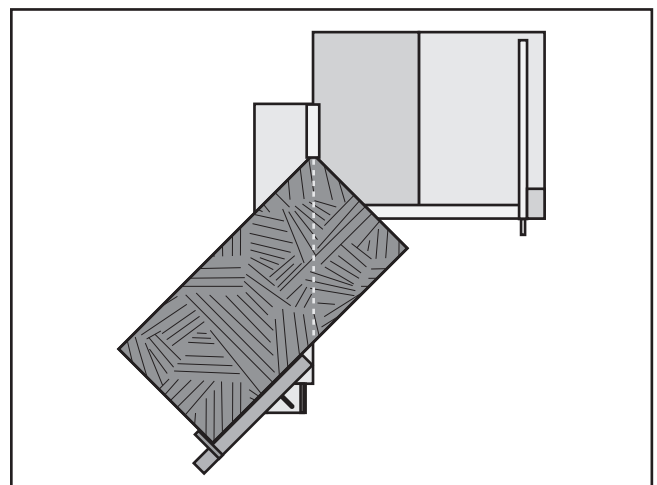

Figure 65. Fence set-up for 45°L cuts.
4. Load the workpiece onto the table saw (similar to **Figure 65**) and perform the cutting operation in the same manner as a crosscut.